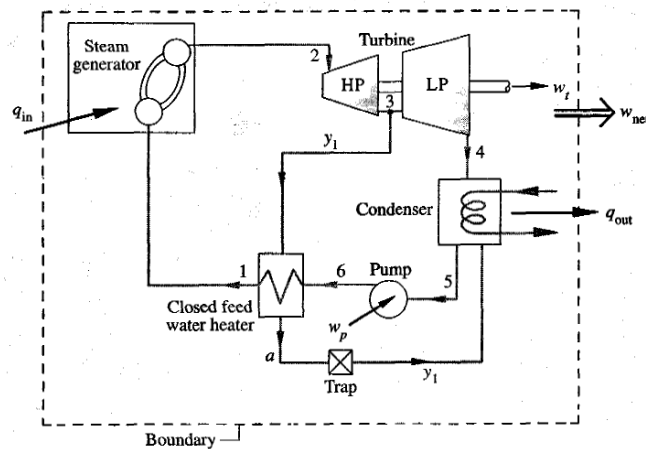

Figure IV.1
- Determine the cycle efficiency assuming the cycle uses a closed FWH (Fig IV.1).